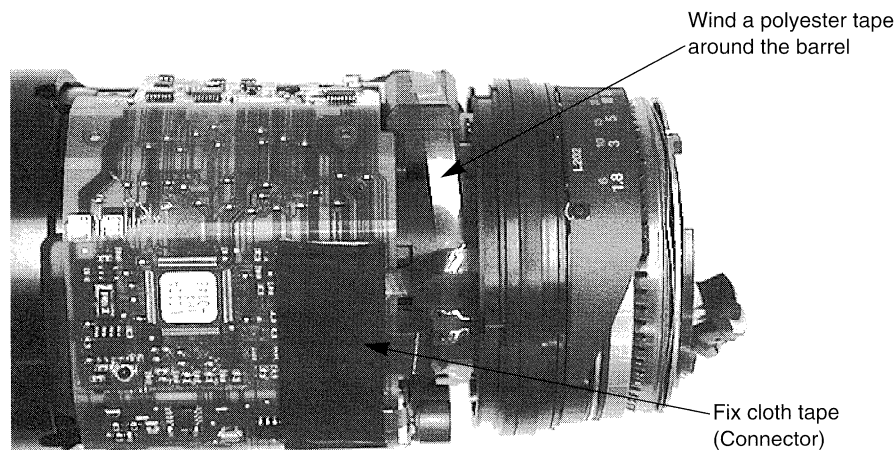

Fig. 3-7 Fixing Flex
- Before installing the link barrel, wind a polyester tape around the barrel to secure each flex. (See Fig. 3-7.)